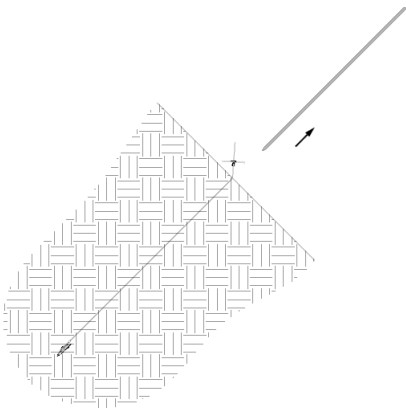

Figure 18: Remove Drive Steel from Ground
4. Remove the drive steel from the ground. (Figure 18) Depending on soil conditions, this may require the use of a setting tool or leverage device.